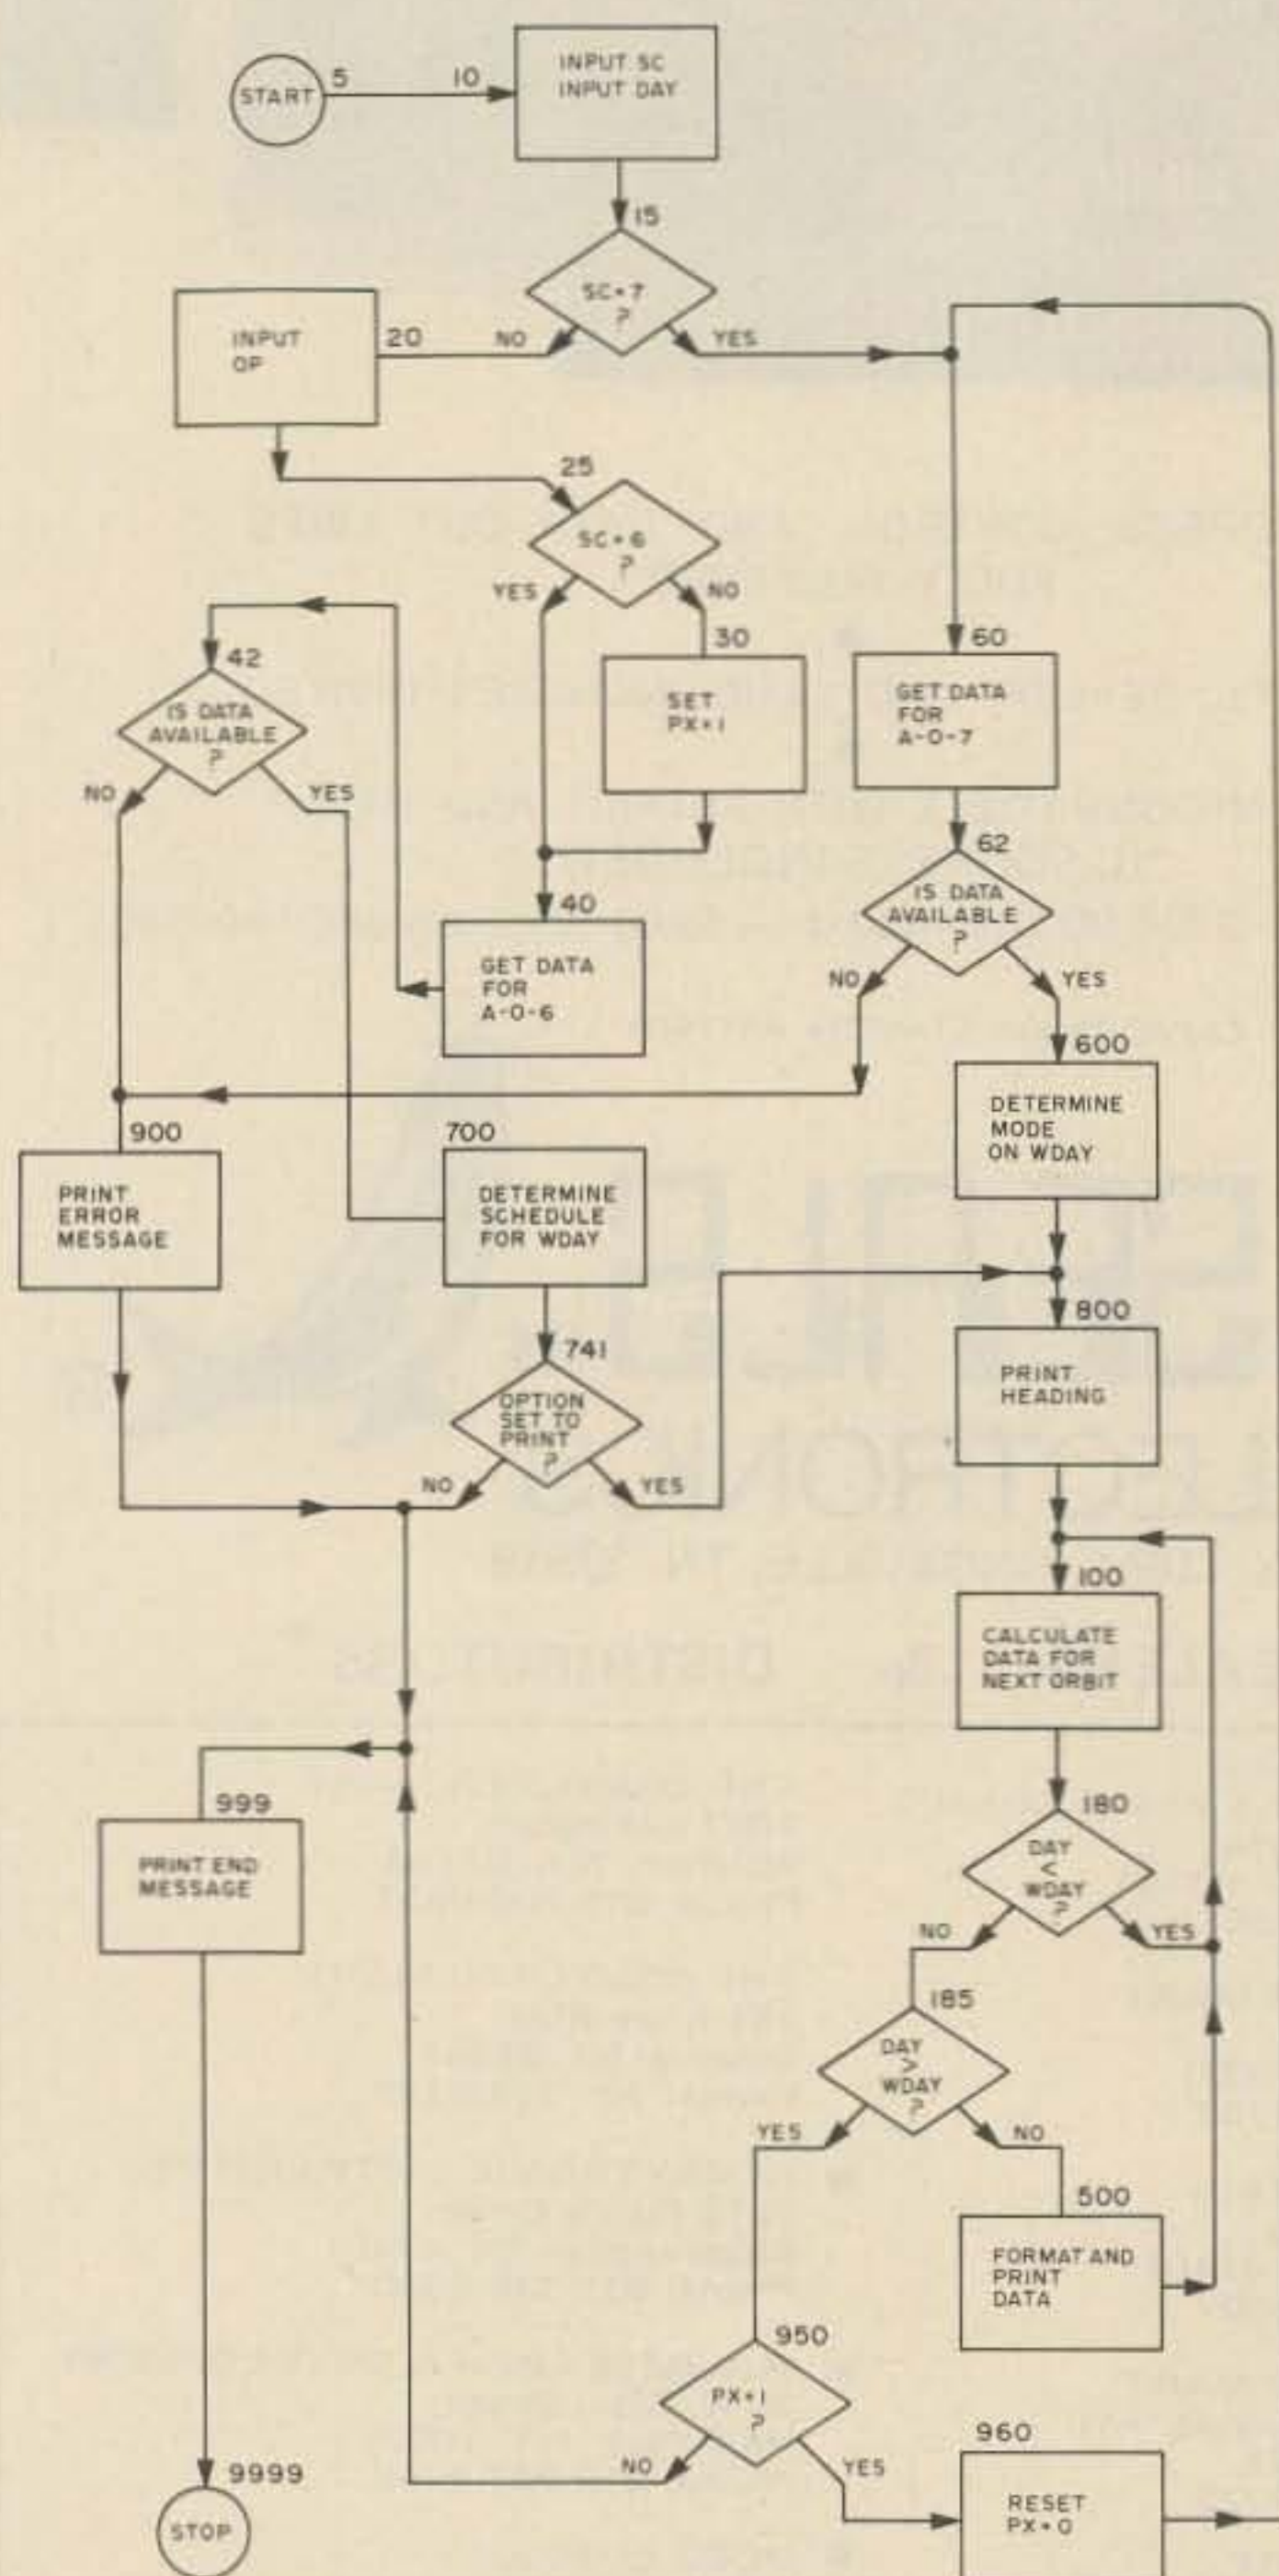

Fig. 1. Flow chart. Numbers in bold are equivalent line numbers.
The program works in the following manner, outlined in the flow chart of Fig. 1. The initial dialogue gives it the wanted day (WDAY) and the spacecraft (SC). Next it picks up the orbital parameters depending on the spacecraft chosen. The data for AMSAT-OSCAR 6 are stored in lines 40 and 45, and that for AMSAT-OSCAR 7 in lines 60 and 65.